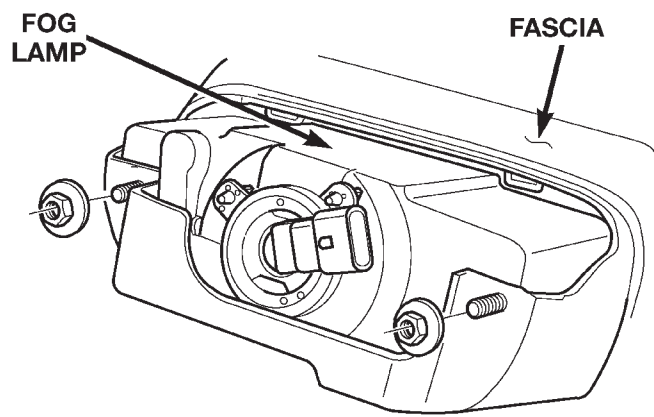

Fig. 7 Front Fog Lamp
(1) Position the fog lamp in the fascia and install the retaining nuts (Fig. 7).